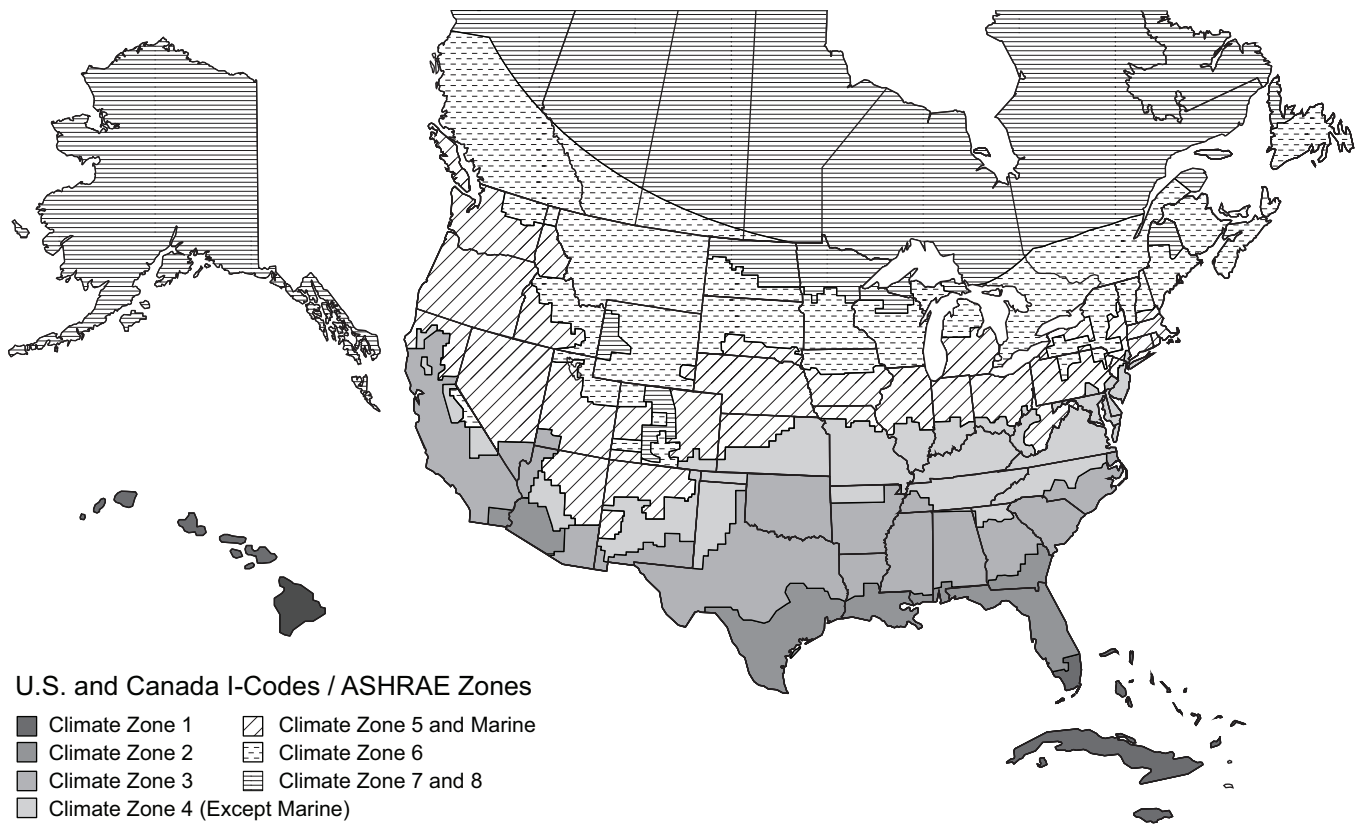

Fig. 88 — U.S. and Canada Climate Zones
- a. Refer to Fig. 88 for map of U.S. and Canada climate zones.